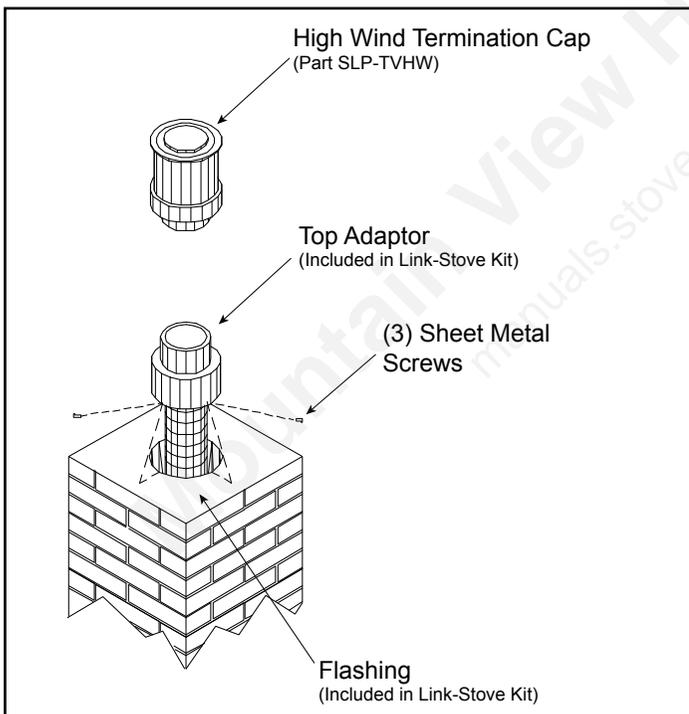

Figure 4.26
- Secure the top adapter to the flashing. Use three sheet metal screws through the side of the top adapter into the flange on the flashing. See Figure 4.26. Twist lock the high wind termination cap on to the top adapter.